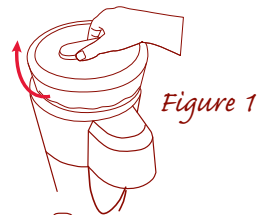

Figure 1
1. Make sure Battery is removed. Place on a clean dry surface. Turn the unit so the back is facing you. Remove the Ice Reservoir Lid by turning clockwise to the unlock position (Figure 1).